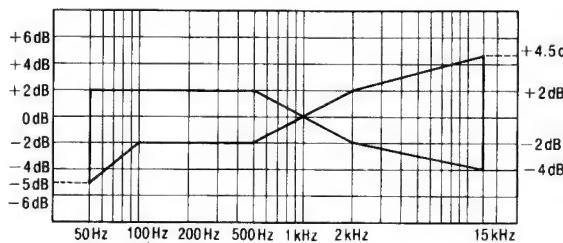

Fig. 10
- Assure that the level is within the range shown in Fig. 10.